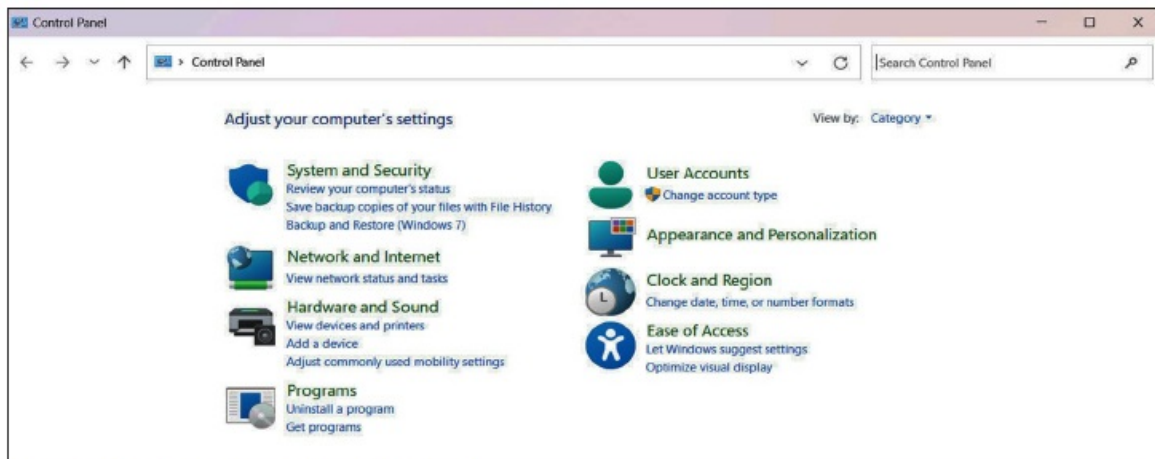

Figure 27. The Control Panel dialog box.
- **STEP 3.** From the Control Panel dialog box, select the Programs option. See Figure 27.